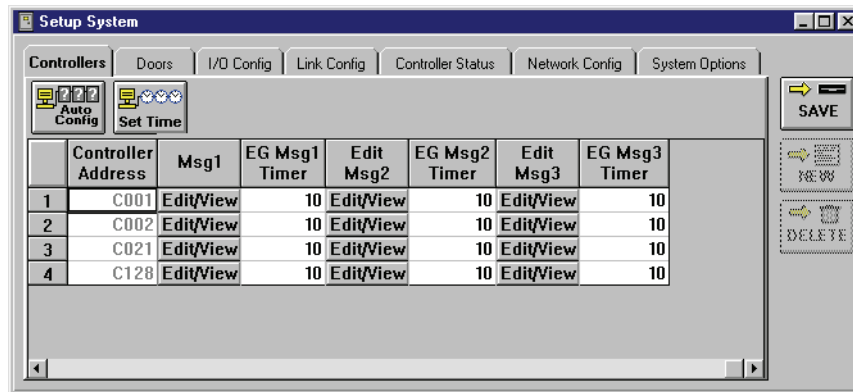

Figure 10-9: Setup System Controllers Tab – Part 2 (EntraGuard Platinum)
1. To edit the banner message, click on the Setup ⇒ System pull-down menu or click on the  tool bar button. Then click on the **Controllers** tab. The Controllers window appears (see Figure 10-9).
3. Scroll across that controller’s row in the spreadsheet and locate the **Msg1** column (see Figure 10-9).